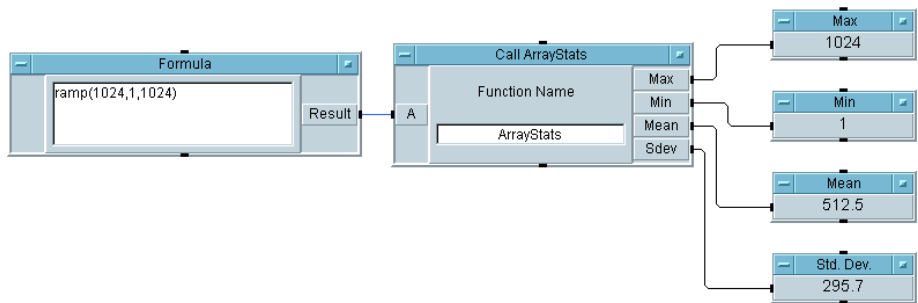

Figure 212 Calling the User Function ArrayStats
- 6 Run the program. It should look like Figure 212. Save the program as **array_stats.vee**.